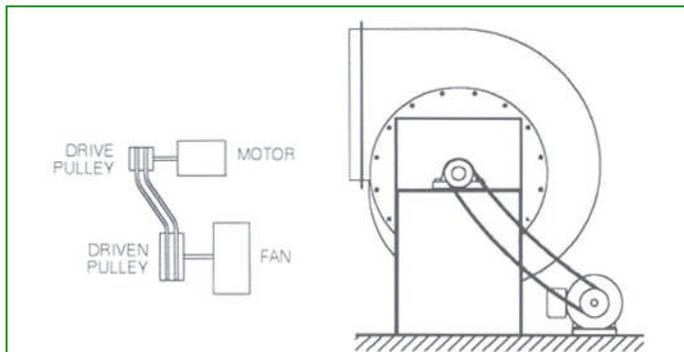

Figure 1 - Poor Drive Alignment and Belt Tension
**Properly aligned and tightened V-belt drives.** See Figure 1. Fan speed can decrease by as much as 10% to 20% when belts are too loose, with a corresponding loss of airflow.